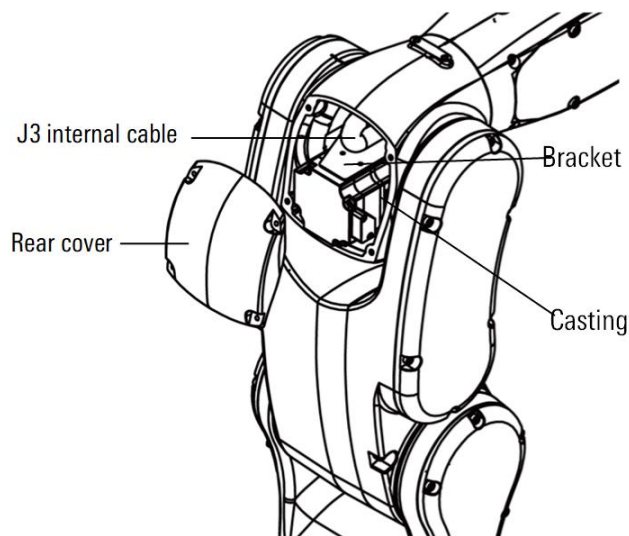

Figure 10-3 J3 axis internal cable
Step1.Remove the J3 axis rear cover, as shown in Figure 10-3 above, and pull out the J3 axis internal cables.